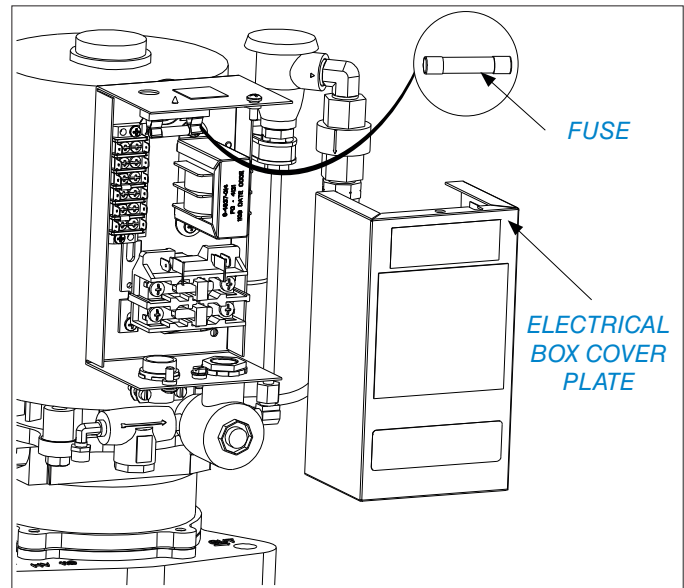

FIGURE 7. REMOVE ELECTRICAL BOX COVER PLATE
1. Remove the electrical box cover plate (FIG 7).